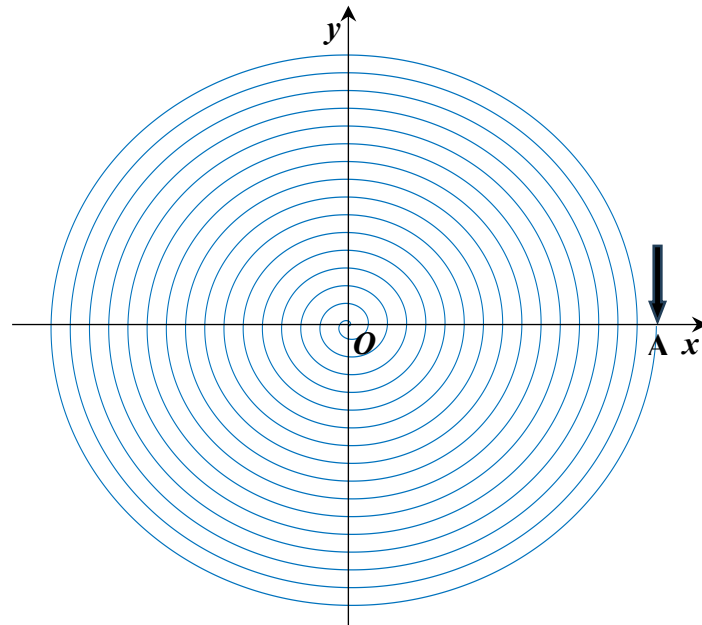

Figure 4 The spiral curve with rotating in
**Problem 1** The Bench Loong rotates in clockwise along an equidistant spiral with a pitch of 55 cm. The center of each handle is located on the spiral. The speed of the front handle of the head keeps at 1 m/s. Initially, the head is located at point A on the 16th turn of the spiral (see Figure 4). Please give the position and speed of the Bench Loong per second from the initial moment to 300 seconds (i.e., the positions and speeds of the front handles of the head, bodies, and tail, as well as the center of the rear handle of the tail, the same below). Please save the results to the file result1.xlsx